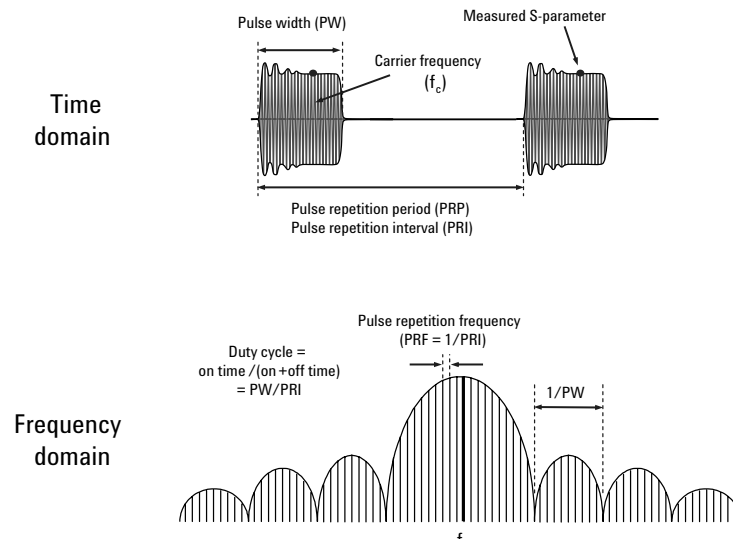

Figure 8. Pulsed-RF network-analysis terminology
This application note assumes the reader is already familiar with pulsed-RF measurements. The basic concepts of pulsed RF are reviewed in Figure 8. When a signal is switched on and off in the time domain (i.e., “pulsed”), the signal’s spectrum in the frequency domain has a $\sin(x)/x$ response. The widths of the lobes are inversely related to the pulse width (PW). This means that as the pulses get shorter in duration, the spectral energy is spread across a wider bandwidth. The spacing between the various spectral components is equal to the pulse repetition frequency (PRF). If the PRF is 10 kHz, then the spacing of the spectral components is 10 kHz. In the time domain, the repetition of pulses is expressed as pulse repetition interval (PRI) or pulse repetition period (PRP), which are two terms for the same thing.